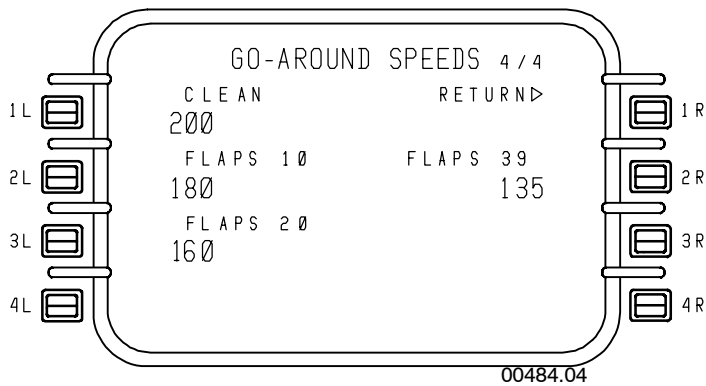

Figure 5-16
- **GO-AROUND SPEEDS** – Figure 5-16 is used to enter the go-around speed schedules for various configurations.